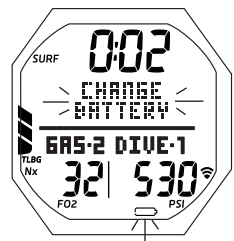

Fig. 1B - LOW BATT ALARM
- Upon entry into Surface Mode, the Battery icon (shell only with no inner bar) and graphic CHANGE BATTERY flash for 5 seconds (Fig. 1B) and operation reverts to Watch Time with Compass (view only) allowed, until the Battery is changed or voltage cannot sustain operation, then the graphic CHANGE BATTERY flashes until the Battery is changed or voltage drops to the level at which operation cannot be maintained.